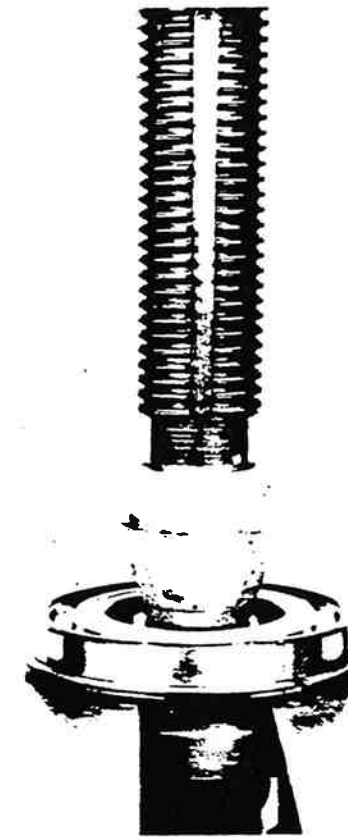

Figure 13-29. Pressing Out Bearing.
10. Press the front bearing from output shaft (figure 13-29).